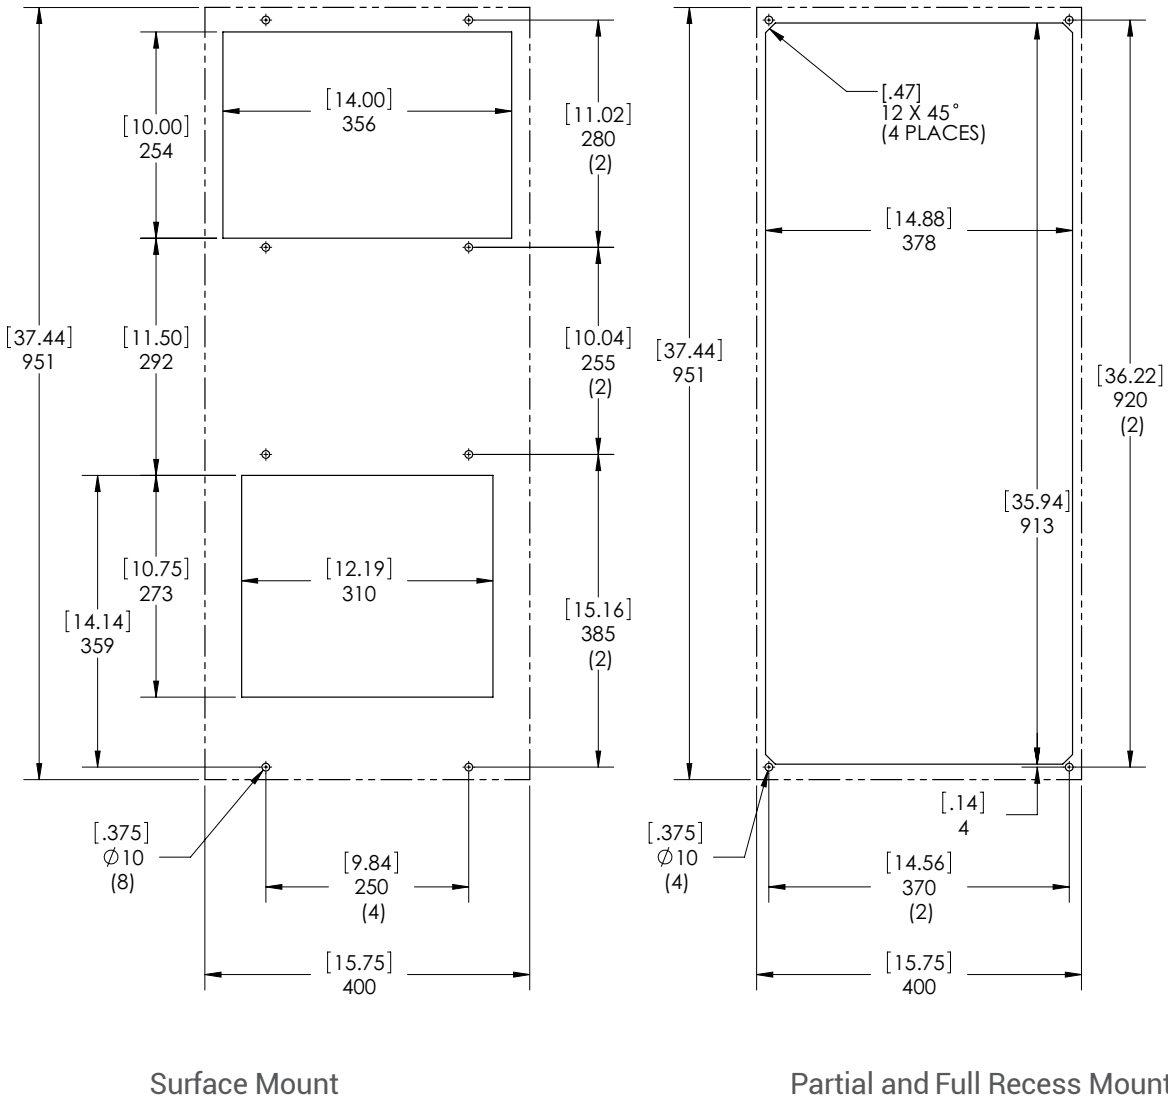

Figure 15
2. Using the cutout template provided with the unit, prepare the enclosure. See Figure 15. The front of the unit requires a half meter clearance for pr . Five centimeters is required on each side of the unit. To avoid condensate ov , unit must be mounted within 3° of level.